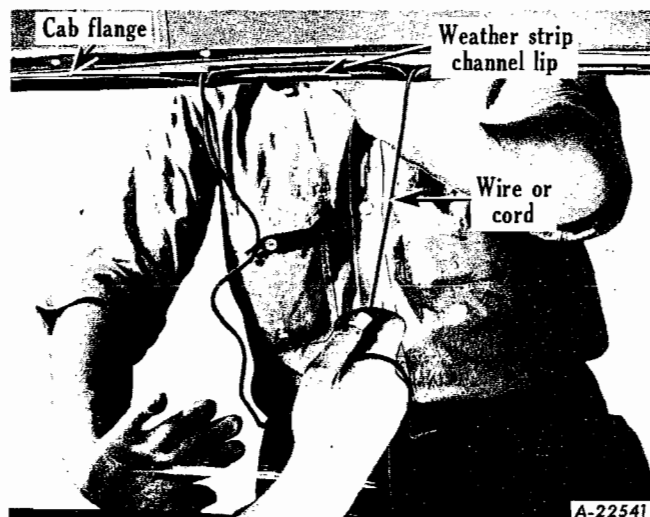

Fig. 26
6. Carefully draw the cord from the flange channel in the weather strip bringing the lip of the channel over the cab flange. Draw one side of the cord out of the weather strip until the cord has traveled completely around to the bottom center of the glass as shown in Fig. 26.